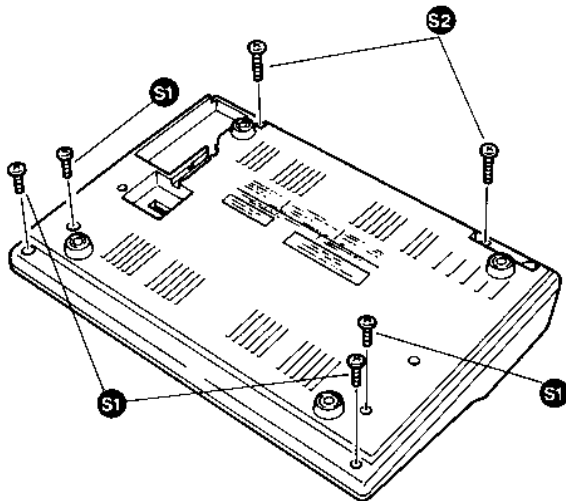

Figure 3-1. Removal of Top Cover
4. Loosen and remove the six (four screws S1 and two longer screws S2) mounting screws which attach the base to the top cover. (Figure 3-1)